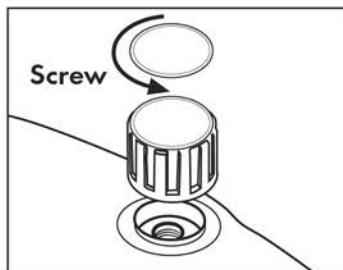

Fig. 16
Wash the boiler using a suitable de-scaling product – it can be ordered from our authorised service centres – and follow the procedure below. Do not use products other than those specifically recommended for cleaning the boiler. Release the pressure in the boiler: switch off the boiler switch (11) and let all the steam out by pressing the steam button (18) on the handle, then turn the main switch to off (10). After the boiler has sufficiently cooled down, disconnect the plug from the socket and open the safety cap slowly (Fig. 16). Disengage the body of the machine (1) from the recovery tank (2)